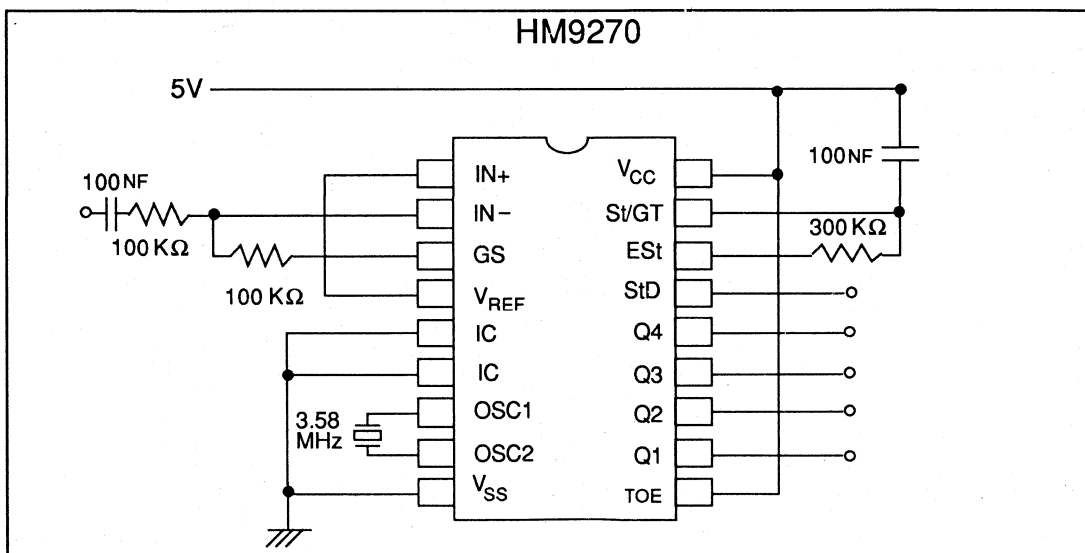

FIGURE 2. SINGLE ENDED INPUT CONFIGURATION
All voltages referenced to  $V_{SS}$  unless otherwise noted.  $V_{CC}=5.0V$ ,  $V_{SS}=0V$ ,  $T_A = 25^\circ C$ ,  $F_{CLK}=3.579545$  MNz, using test circuit of figure 2.
Provision is made for connection of a feedback resistor to the op-amp output (GS) for adjustment of gain. In a single-ended configuration, the input pins are connected as shown in Fig. 2 with the op-amp connected for unity gain and  $V_{REF}$  biasing the input at  $1/2V_{CC}$ .